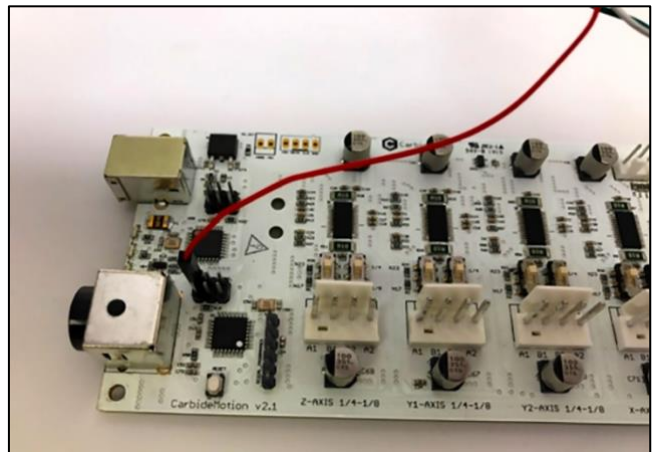

Figure 4
2. Connect the 1-pin connector (+5V red wire) of the legacy adapter cable to the pin labeled *AVR Programming* on the left side of the board near the power port. See **Fig. 4**.